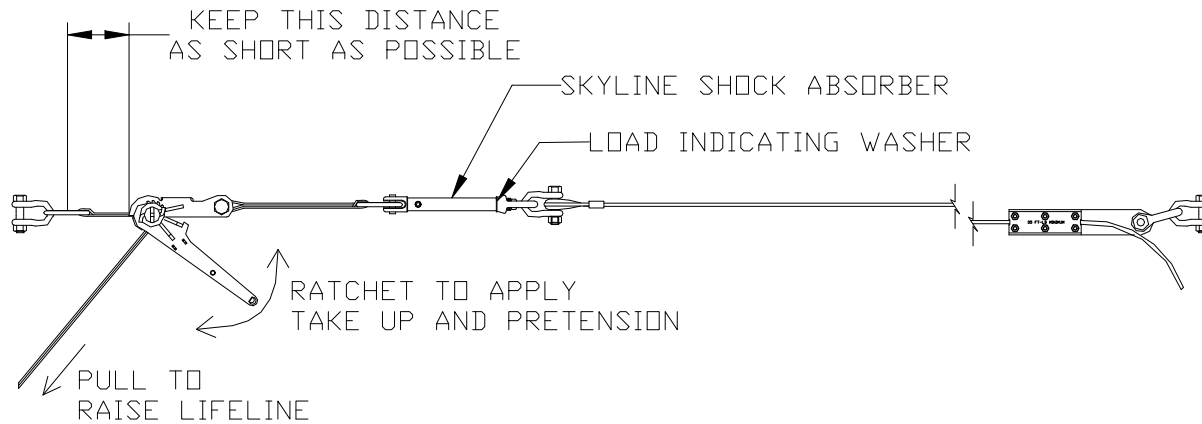

Figure 10 - Shock Absorber Load Indicating Washer
30. Tighten the ratchet load binder until the line tension just releases the load-indicating washer of the Shock Absorber to spin free. This washer is located just under the eye of the Shock Absorber (see Figure 10). A freely spinning washer indicates that the cable has been pre-tensioned to 1000 lbf.